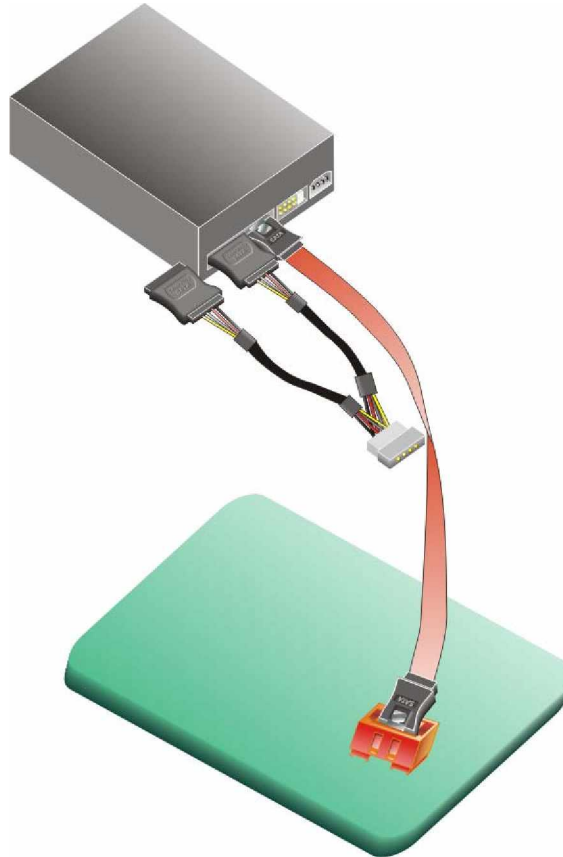

Figure 4-11: SATA Drive Connection
of the SATA drive (**Figure 4-11**).
Step 4: Connect the SATA power connector to the back of the SATA drive (**Figure 4-11**).